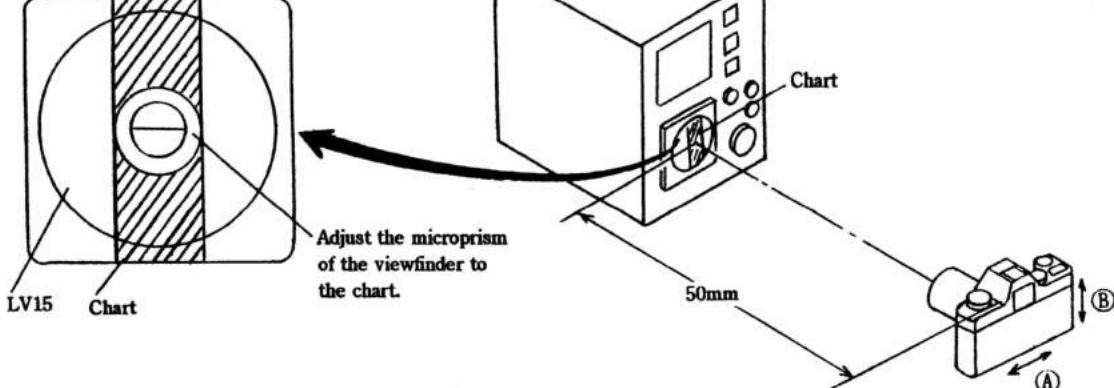

Fig. 74
- 9) Look into the viewfinder and swing the camera gently right and left (in the direction of the arrow Ⓐ). (See Fig. 74)
- 13) Look into the viewfinder and swing the camera gently up and down (in the direction of the arrow Ⓑ). (See Fig. 74)
And adjust by turning the Adjusting Screw Ⓑ so that the shutter speed indicator shows the slowest speed. (See Fig. 74)